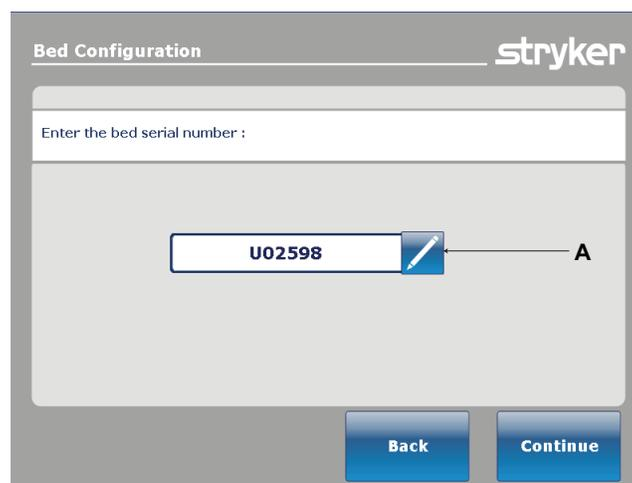
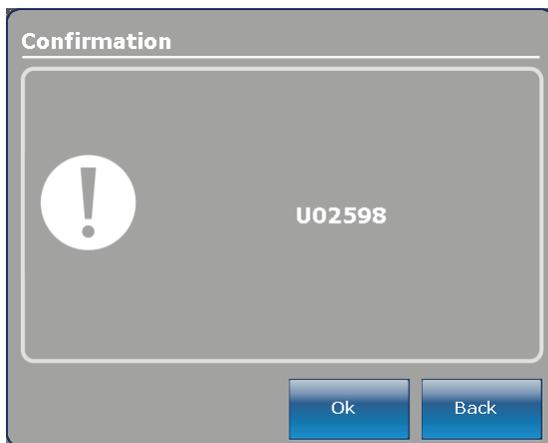

Figure 34 – Bed Configuration serial number screen
Figure 35 – Serial number confirmation screen
1. Press and hold the **HOB 30** button and the **Vascular Position** button at the same time for 5 seconds then release both buttons. The Bed Configuration - Serial Number screen will be displayed (Figure 34).
2. Enter or confirm the serial number of the bed (Figure 34).
- b. Press the pencil icon (A) button (Figure 34). The Edit screen will be displayed.
- d. If the serial number is incorrect, press the pencil icon (A) button to open the Edit screen then enter the correct serial number.
3. The serial number will be saved and the serial number confirmation screen will be displayed. Press the **OK** button (Figure 35).